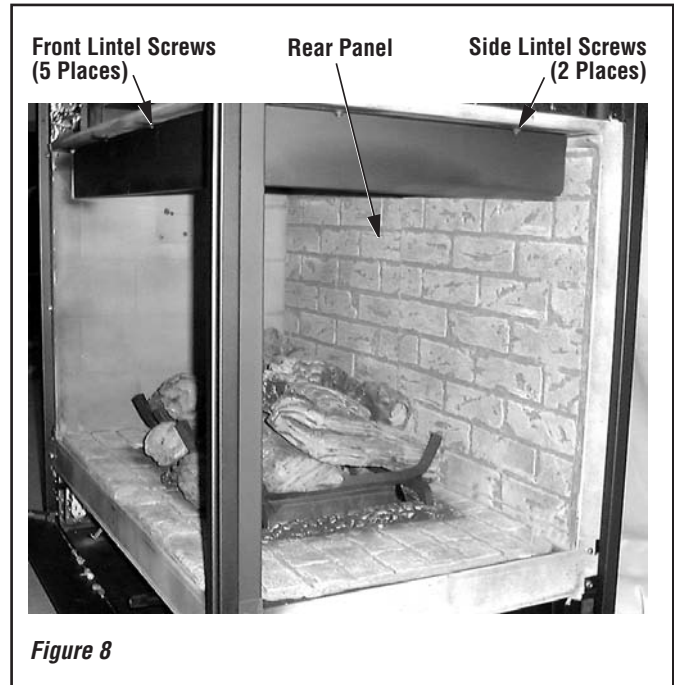

Figure 8
1. Slide the provided rear panel into the unit as shown in **Figure 8**.
1. Slide the provided rear panel into the unit as shown in **Figure 8**. (See **Note Above**).